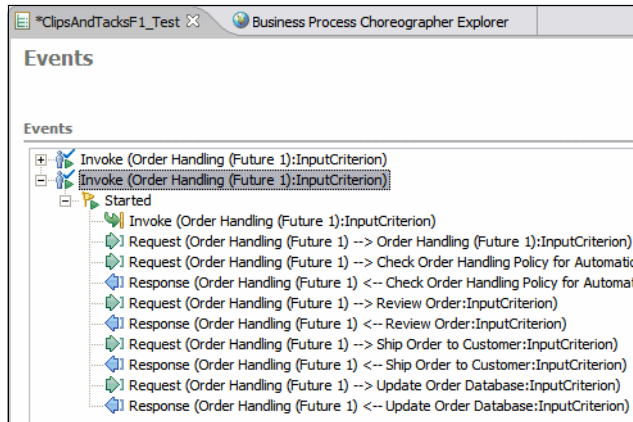

Figure 10-37 Testing: Process complete
- ▶ The process finishes, which can be seen in the test events list (Figure 10-37).